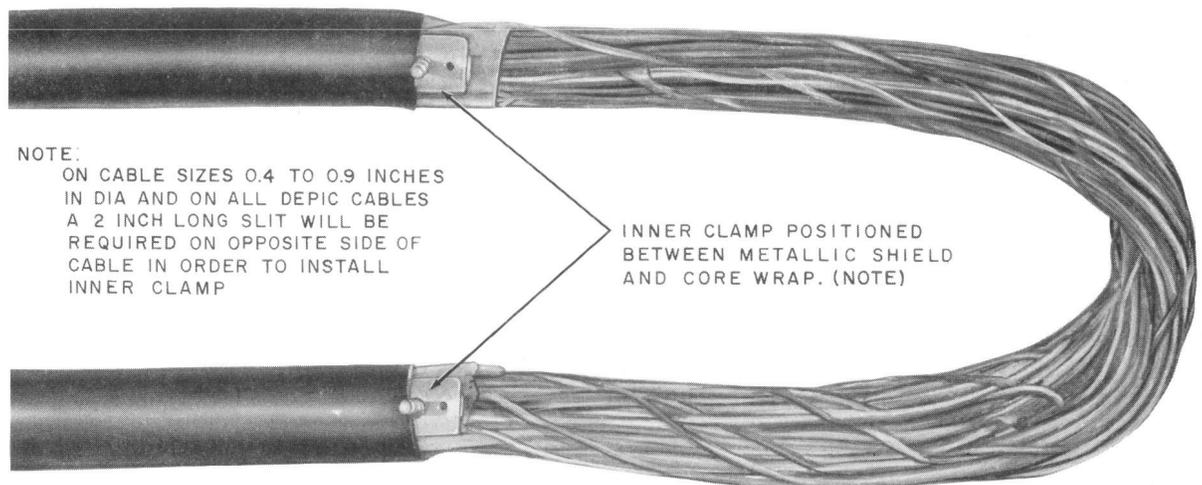

Fig. 20—Installed Inner Clamp
- 4.02 Remove the inner clamp from the tie bar assembly and position between metallic shield and core wrap as shown in Fig. 20.